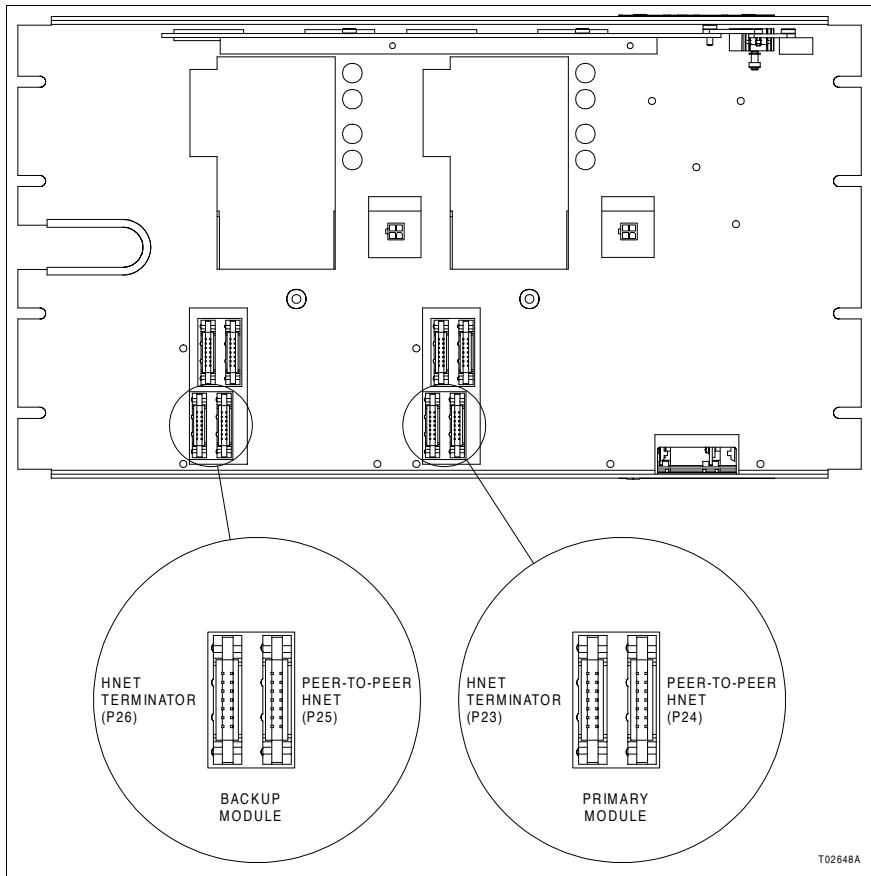
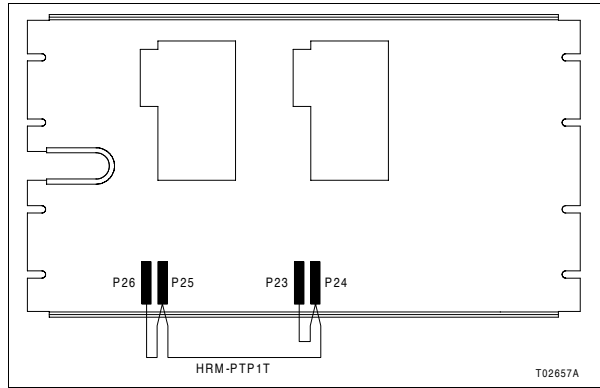

Figure PR9-1. Peer-to-Peer Hnet Connectors
Figure PR9-2. Controller with Peer-to-Peer Hnet Not Used
1. Figure PR9-1 shows the location of the peer-to-peer Hnet connectors on the docking station: P23 and P26 Hnet terminators, P24 and P25 peer-to-peer Hnet. Refer to Figures PR9-2 through PR9-8 to determine which peer-to-peer Hnet connection method is appropriate and to determine the cables needed to make the connections.
2. Peer-to-peer Hnet must be properly terminated even if not used (Fig PR9-2).
3. Redundant controller modules communicate over the peer-to-peer Hnet. Therefore, the redundant controller modules must be connected for peer-to-peer communication even if the controller does not communicate with other controllers (Fig PR9-2).